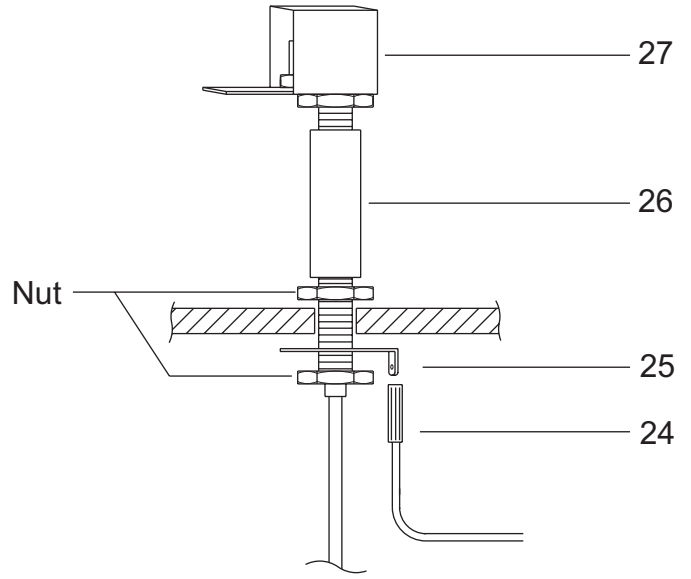

Figure 1
Slide the collector box spacer (26) and nut (provided on assembly) onto the collector box shaft and tighten. Figure 1.
Attach one end of the ground wire (24) to the terminal on the rear of the electronic ignitor. Attach the remaining end to the ground lug. Figures 1 and 2.